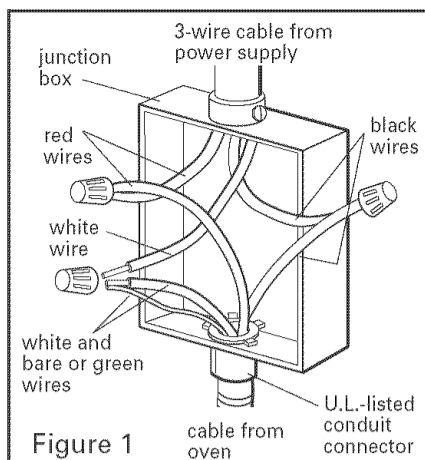

Figure 1
7. Connect the bare or green and white oven cable wires to the neutral (white) wire in junction box. See Figure 1.